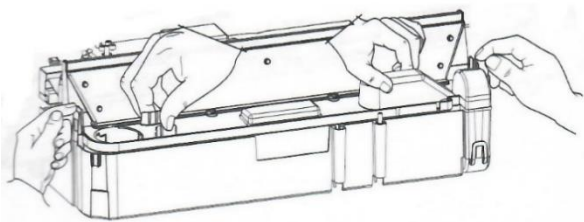

Fig 31
5. There are two orange clips holding down the nozzle on the sump; one on the left and one on the right hand side of the nozzle. On the left side, press in the clip with one hand and with the other lift the nozzle out of the clip. Repeat this for the right side (Fig. 31).